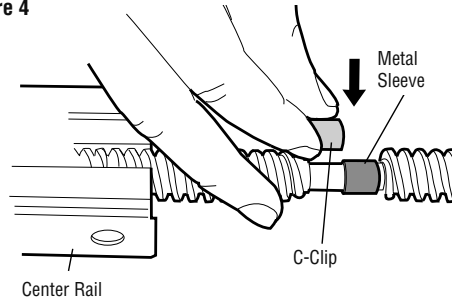

Figure 2
- Extend the drive screw a few inches from the center rail, and slide the sleeve onto the long journal (Figure 2).